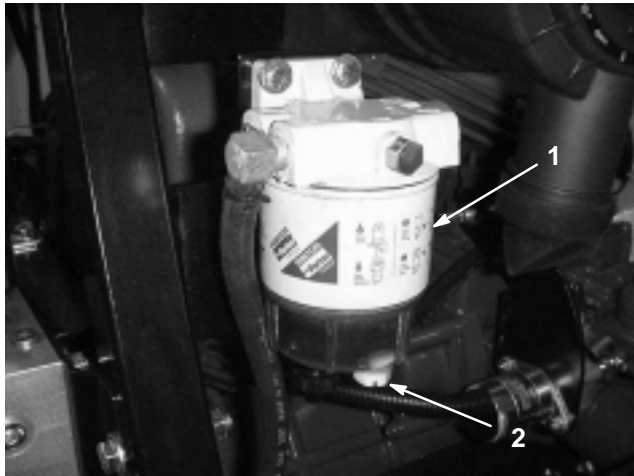

Figure 29
Drain water or other contaminants from the water separator (Fig. 29) daily.
2. Loosen the drain plug on the bottom of the filter canister (Fig. 29). Tighten the plug after draining.